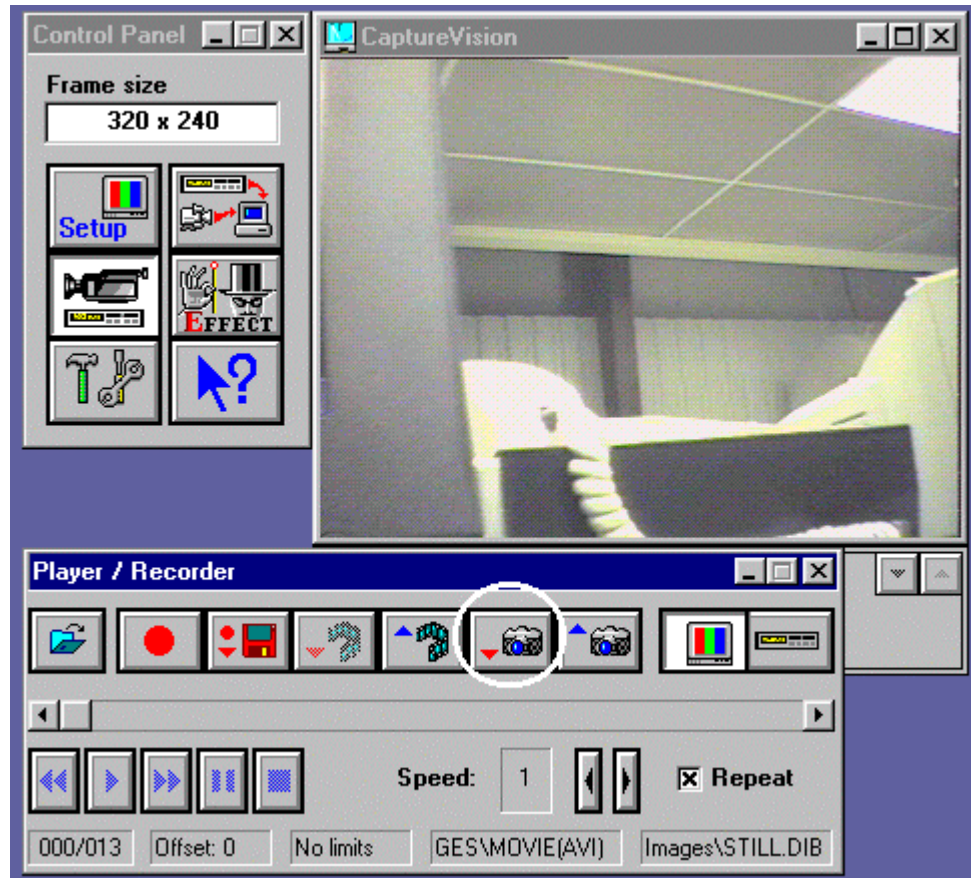

Figure 34 Player/Recorder Controls
- Double-click the **Camera** button (circled). A warning dialog may appear, similar to that shown in Figure 34. Click **Yes**.